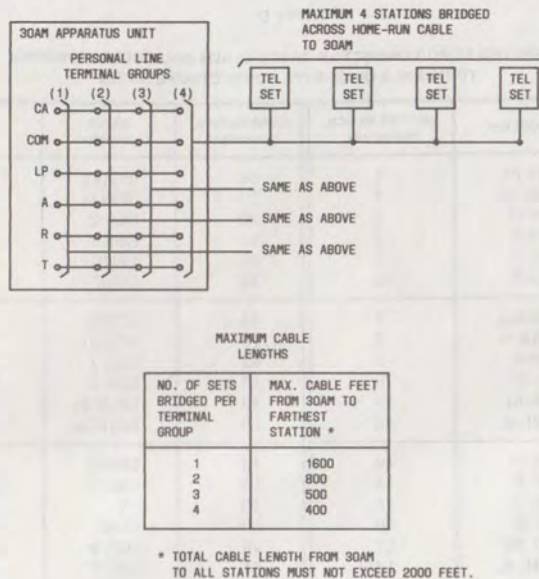

Fig. 12—Personal Line Cabling Limitations
3.16 Personal Line Cabling—Personal lines do not utilize the system interconnection cables but require separate connections between stations and 30AM apparatus units. Figure 12 illustrates the limitations on the connection of personal lines. Bridged cabling can connect a maximum of 16 sets to a 30AM apparatus unit. Refer to paragraph 3.56 for detailed instructions on installing personal lines.
3.27 Convert the 86A connecting block (Fig. 12) supplied with the set to an 85A block and mount it on the wall plate as follows: